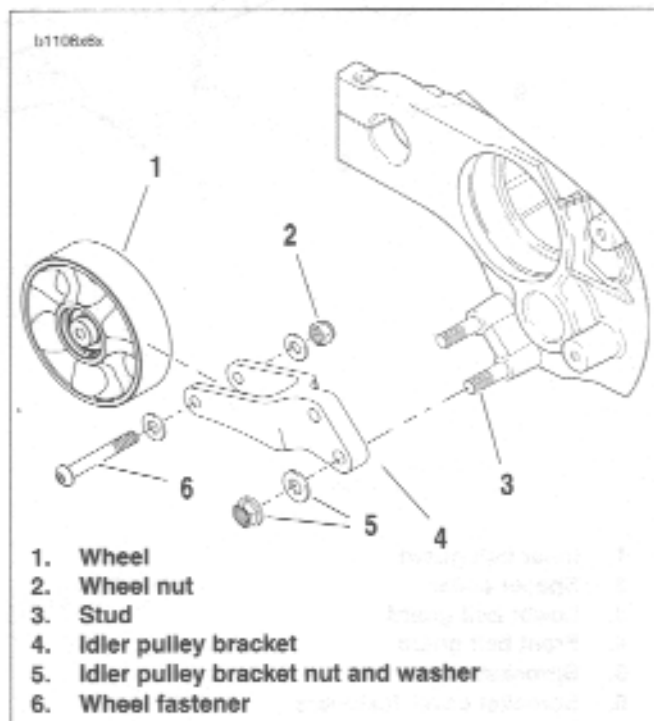

Figure 1-26. Idler Pulley Assembly
4. See Figure 1-26. Remove idler pulley bracket nuts and washers (5) from studs (3).
5. Slide idler pulley bracket (4) off studs (3).
6. Inspect pulley by spinning wheel (1) and checking for wheel bearing wear.
7. If pulley wheel needs replacement, remove fastener (6), washer and nut (2) from idler pulley bracket (4) and discard wheel. Replace with **new** pulley wheel (1).
1. See Figure 1-26. Install new or existing pulley wheel (1), if removed, and tighten washer and nut (2) wheel fastener (6) to 96-120 in-lbs (11-14 Nm).
2. Slide idler pulley bracket (4), washer and nuts (5) on to studs (3) and tighten to 33-35 ft-lbs (45-47 Nm).